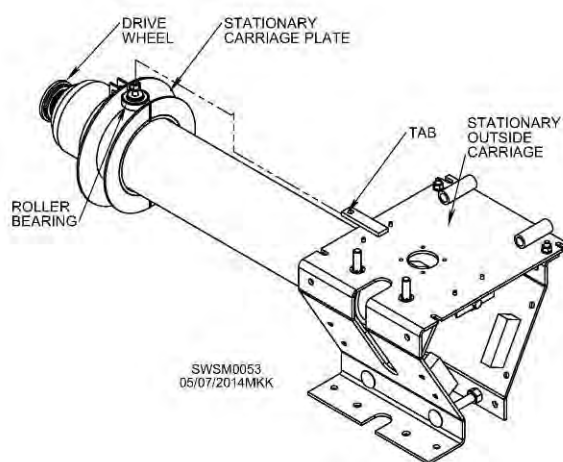
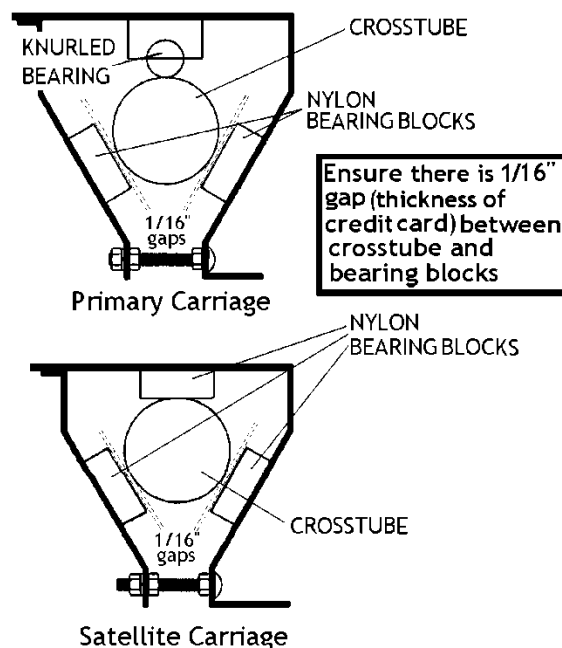
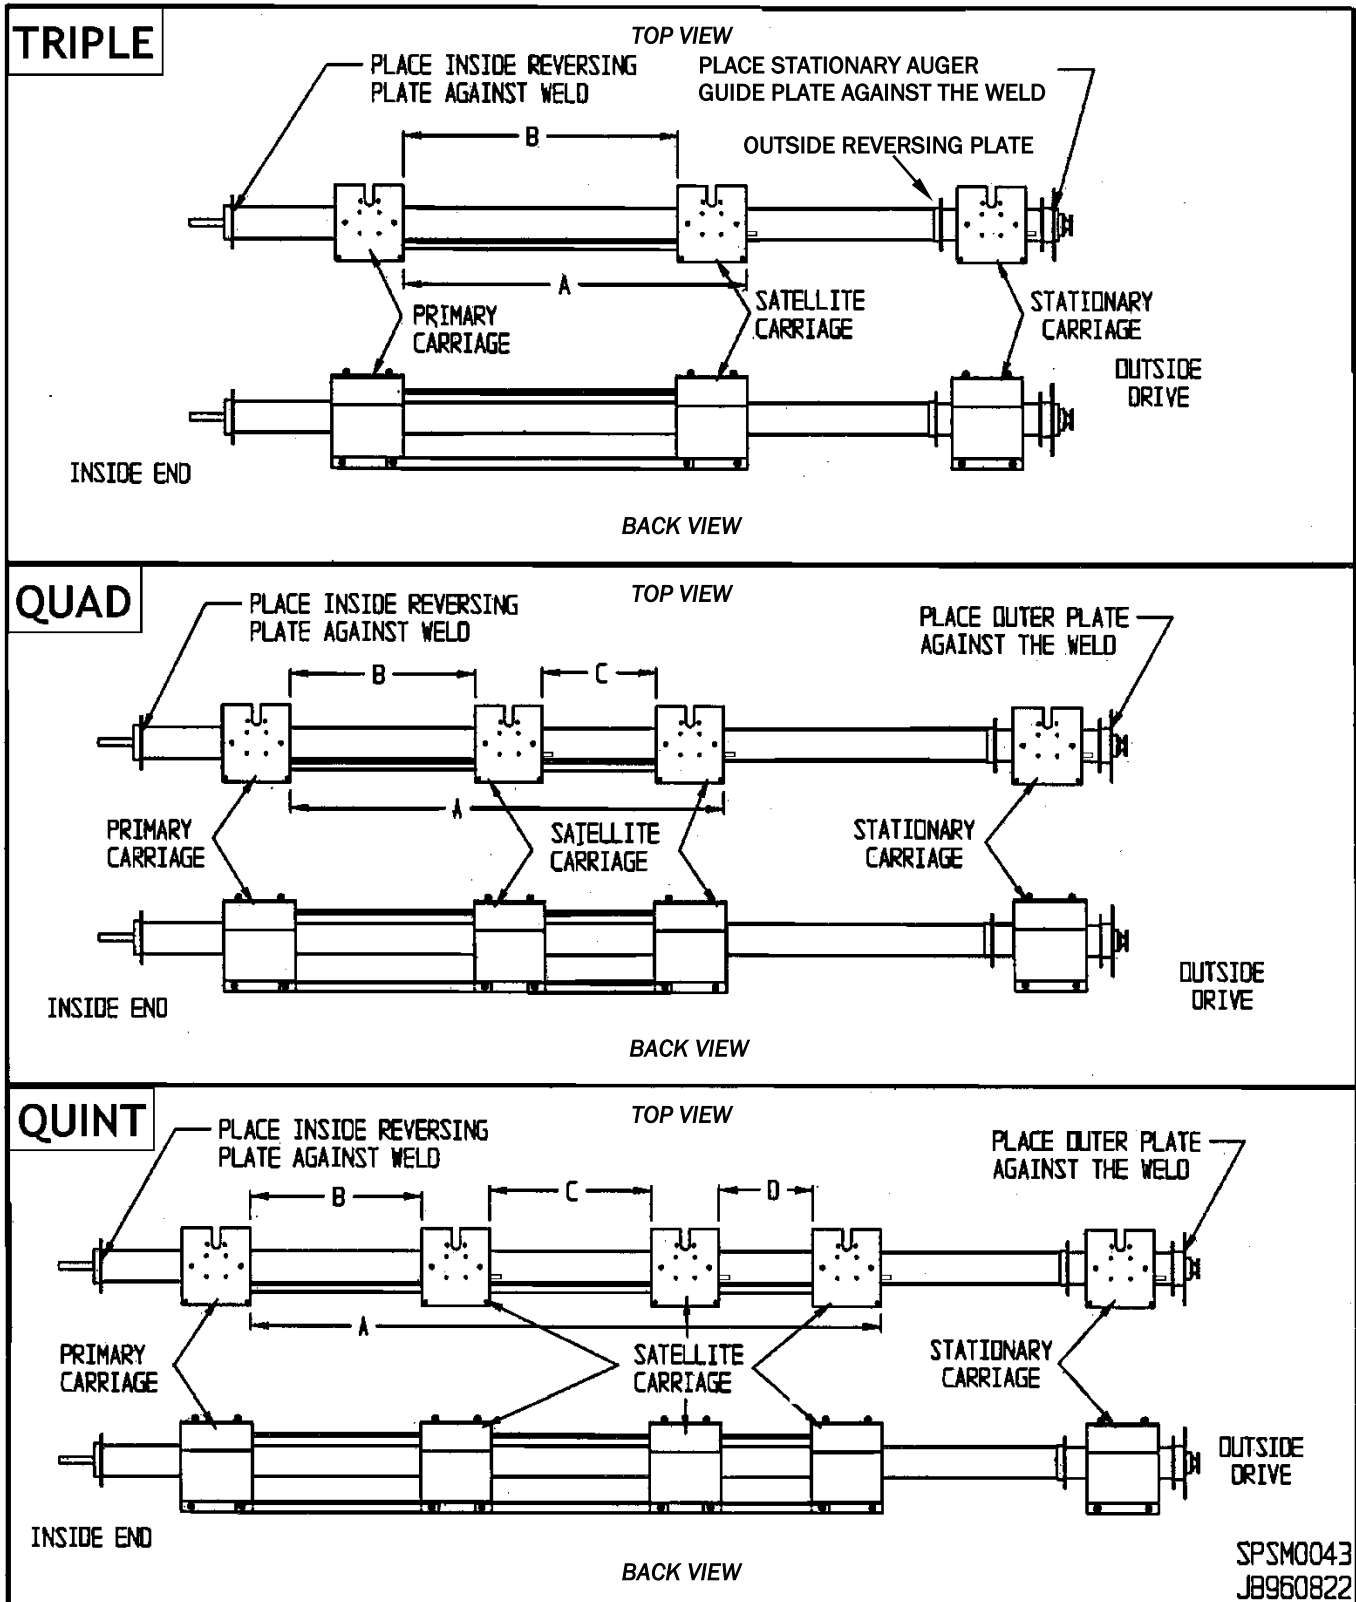

Figure 7 - Placement of Stationary Outside Carriage on Fastir Plus Unit
Figure 8 - Side View of Primary and Satellite Carriages
Figure 13 - Tie Bar and Carriage Placement for Fastir Plus Units
- 3 Bolt stationary carriage plate onto drive wheel end of crosstube with hub pointing outward using 3/8" x 1-3/4" bolts and 3/8" washers and nuts. **Figure 7, Figure 13.**
- 4 Slide stationary outside carriage onto crosstube beside plate with reversing mechanism tab pointing toward drive wheel. **Figure 7, Figure 13.**
- 5 Slide satellite carriage(s) onto crosstube from inside, shaft end with reversing mechanism tab pointing toward drive wheel, as shown in **Figure 7.**
- 6 Slide primary carriage about 1 foot onto crosstube from inside, shaft end. Knurled bearing should be on top and slot for down auger on front of crosstube as shown in **Figure 7, Figure 8.**
- 7 Ensure 1/16" gaps (approximately the thickness of a credit card) exist between crosstube and bearing blocks. **Figure 8.**